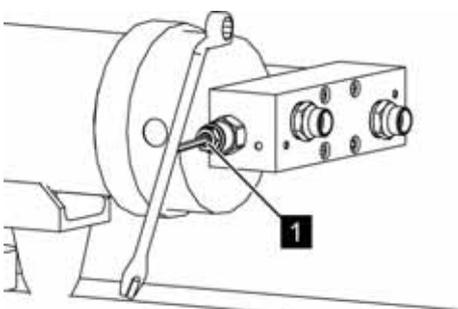

Fig. 104: Emergency drain
5. ▶ Loosen the Allen head screw (Fig. 104/1) slowly. While doing this, observe the movement of the lift arm.